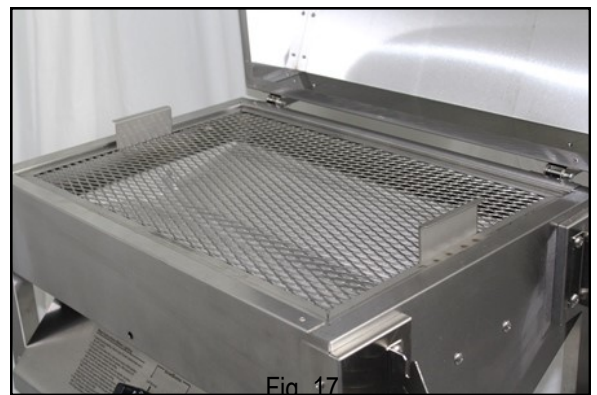

Fig. 17
1. Place the mesh stainless steel cooking grid into the grill as shown in (Fig. 17).